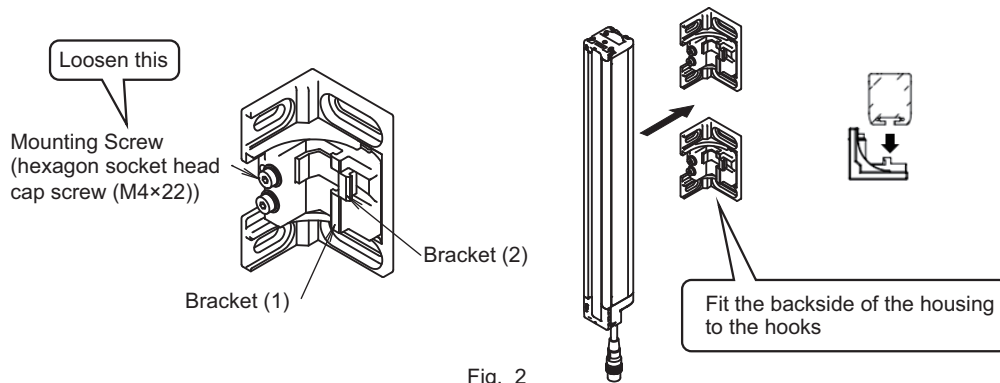

Fig. 2
2. Fully loosen the Mounting Screws (hexagon socket head cap screw (M4×22)). Fit the backside of the F3SG-RR housing to the Brackets (1) and (2) so that the groove of the backside of the housing receives the hooks of the Brackets (1) and (2). (Fig. 2)